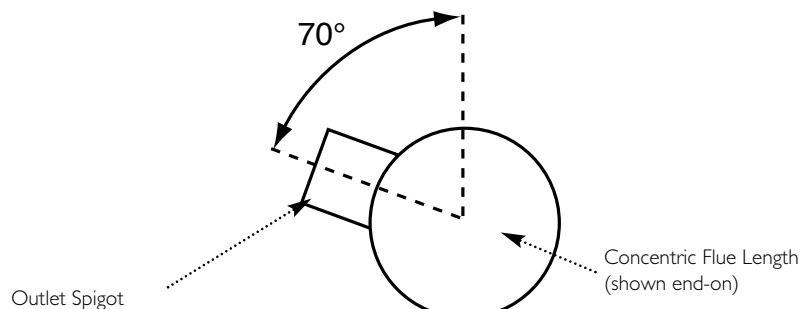

Fig. 38
23. When under balconies or projections it is permissible to rotate the concentric flue length up to 70°, clockwise or anti-clockwise (Fig. 38), if there is insufficient space to connect vertically.